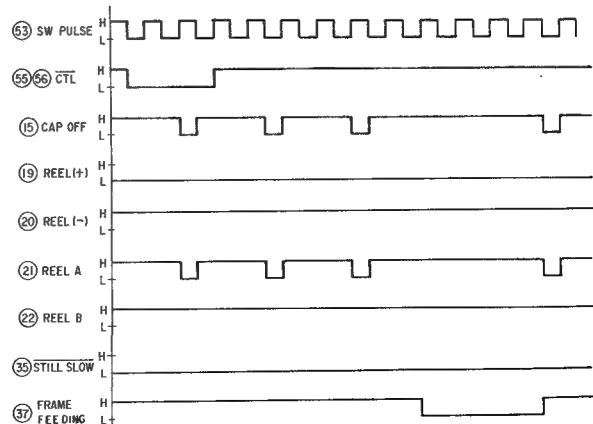

Fig. 3-4-9 Basic timing chart
- (1) When the FRAME button is pushed during the still operation, the capstan motor and the reel motor rotate. When the FRAME button is pushed, the capstan motor and the reel motor are intermittently driven. (Refer to Fig. 3-4-9)